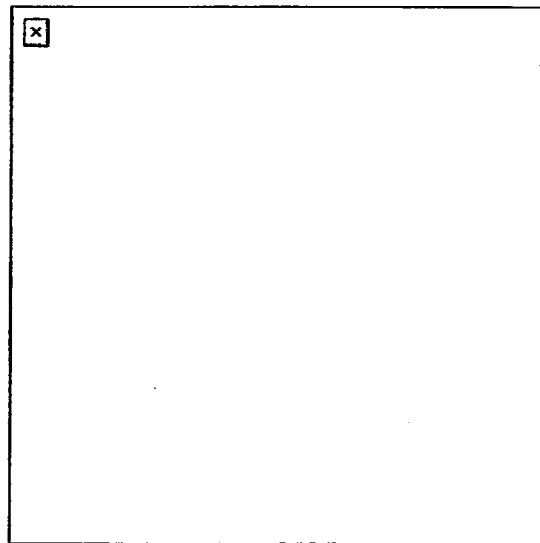

Figure 191-376-4122-1
1. Assume the safe-port position as shown in Figure 191-376-4122-1.